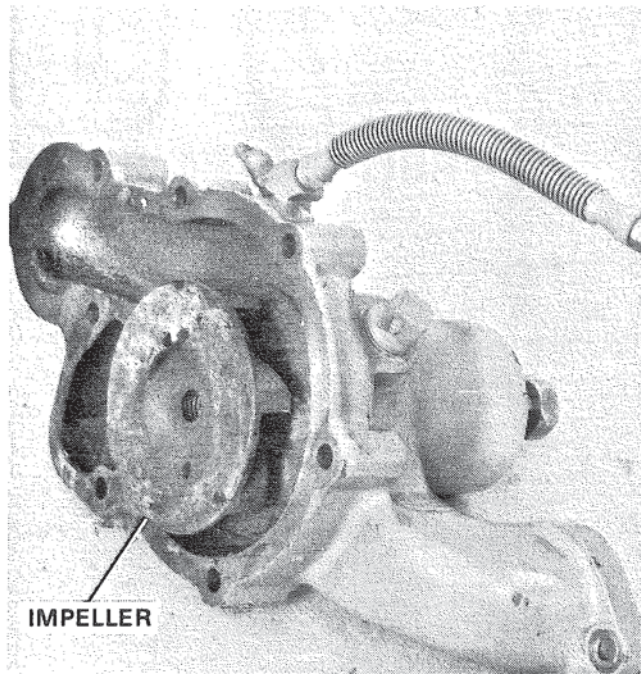

Figure 4. Removing Impeller.
4. Unthread impeller from drive shaft. Figure 4.